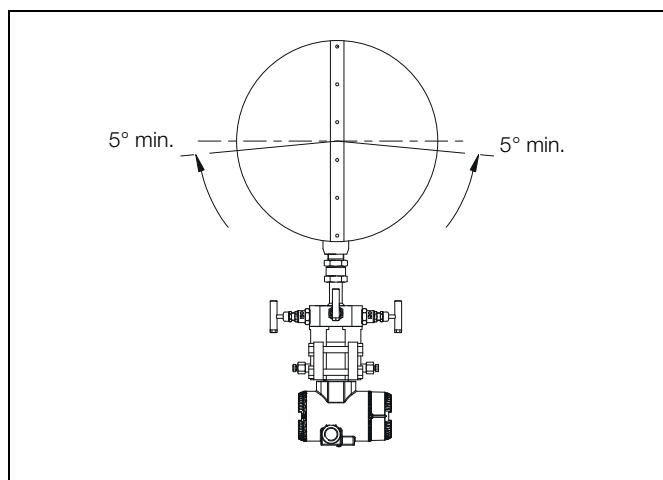

Fig. 2.10 Horizontal Pipe Mounting – Liquids
To ensure the instrument lines contain only the process liquid, install PitoMaster with the instrument connections **below** the centre line of the pipe, at least 5° below the horizontal – see Fig. 2.10.
- for horizontal pipe mounting – liquid, refer to Fig. 2.10.